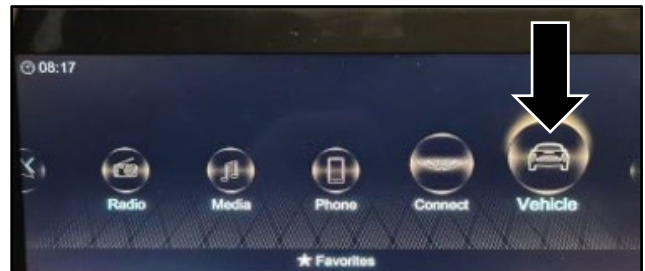

Figure 1
2. In the infotainment menu select “Vehicle” and hold the rotary selector down for 15 seconds (refer to Figure 1).